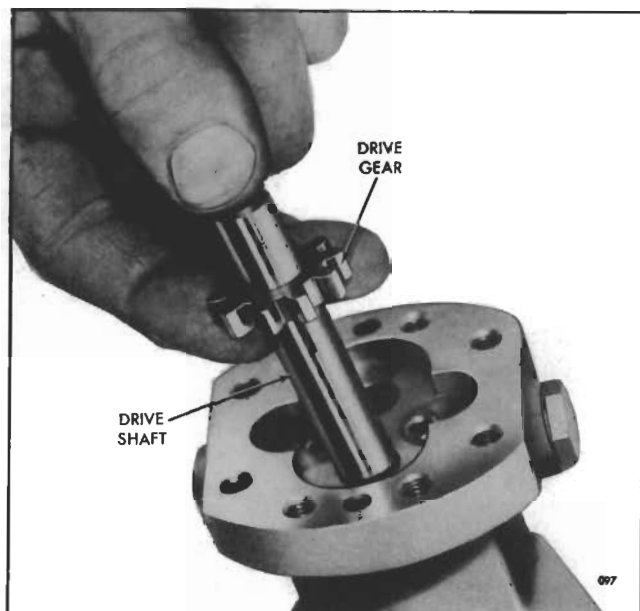

Fig. 10 - Installing Fuel Pump Drive Shaft and Gear Assembly
4. Lubricate the pump shaft and insert the square end of the shaft into the opening at the gear side of the pump body and through the oil seals as shown in Fig. 10.